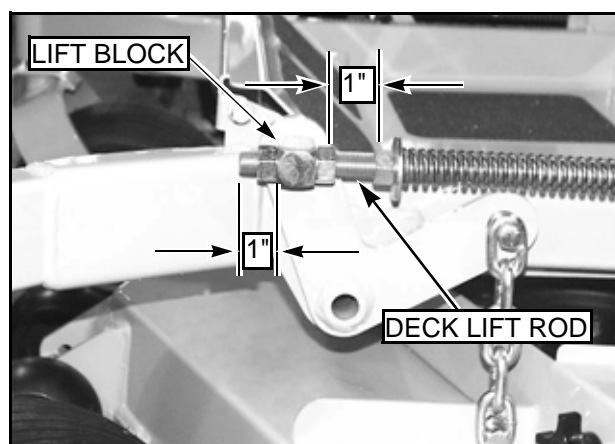

FIG. 67
9. Set the amount of threads protruding on the deck lift rod from the lift block at approximately 1" (FIG. 67).
27. Compress the deck lift assist springs so that there is 1" of space between the front nut on the spring and the rear nut on the deck lift block (FIG. 67). Typical both sides.